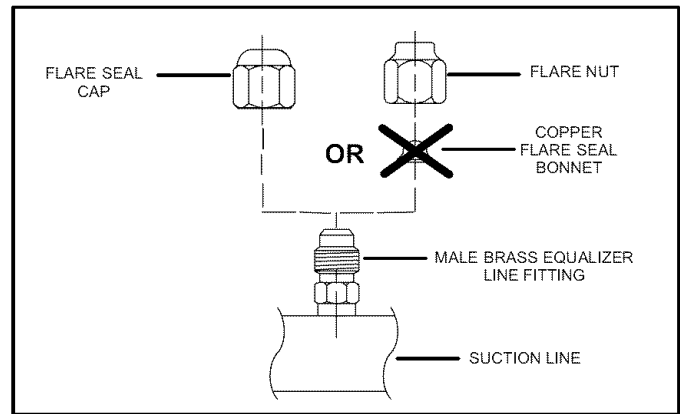

Figure 26. Copper Flare Seal Bonnet Removal
- Remove and discard either the flare seal cap or flare nut with copper flare seal bonnet from the equalizer line port on the suction line as illustrated in figure 26.